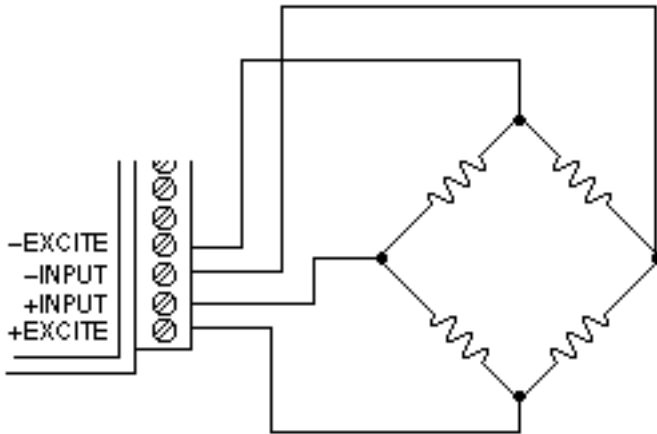
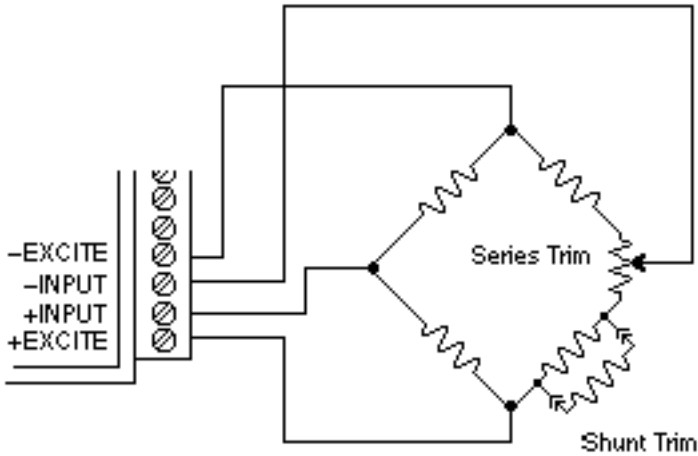

Figure D-1 Bridge Circuit Wiring
Figure D-2 Bridge Circuit Trim
To perform an initial offset trim, attach the bridge unit to the module (as shown in Figure D-1). Clear out any previous offset trims with the Clear Zero (CZ) command. Apply the desired zero condition to the bridge sensor. For a Strain Gage Bridge this would be the relaxed or unstrained condition. For loadcells, the zero condition could include any tare weight due to a weighing platform or other attachments that would affect the zero balance. Obtain an initial reading using the Read Data (RD) command. The output data will indicate the total offset of the system. Subtract the offset value from the usable input range of your module, either  $\pm 60\text{mV}$  or  $\pm 120\text{mV}$ . The result is the maximum usable "input overhead". If the overhead is not sufficient for your application, the bridge must be trimmed externally to lower the offset to an acceptable value. The bridge may be trimmed with a small series resistance or a large shunt resistance to the appropriate leg of the bridge (as shown in Figure D-2). If the initial offset is acceptable, the offset may be trimmed with the Trim Zero (TZ) command.